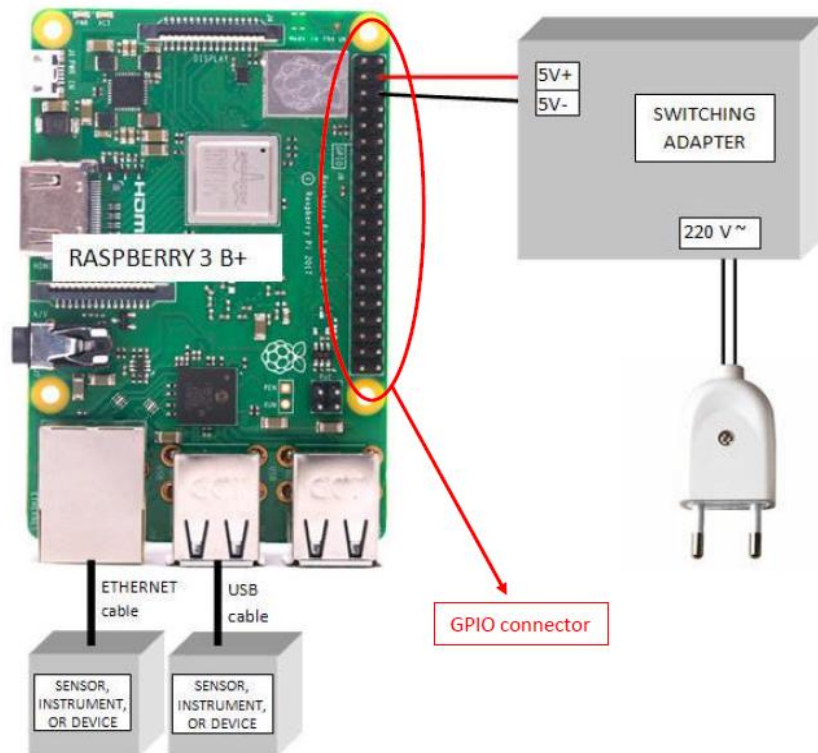

Figure 2: *SentinAir* hardware minimal configuration. Sensors/devices/instruments can be attached through the USB, Ethernet, Serial, or I2C port.
SentinAir is a modular and flexible system. The system hardware can be assembled in a minimal (see figure 2), or a typical configuration (see figure 3). The minimal hardware is composed of:
- a 5V power source capable of providing a direct current of 3A maximum. At the moment, the system has been tested with a switching ac/dc adapter (see figure 2).
The minimal configuration allows the user to use sensors/devices/instruments featured by a USB, serial, I2C, or Ethernet output interface, while analog output interfaces devices must be used with one of the analog-to-digital converter boards featuring the *SentinAir* typical hardware configuration. Ethernet or USB devices must be connected through the Ethernet and USB sockets (see figure 2), while I2C and serial devices must be connected to the Raspberry GPIO connector following the indications of figure 3.